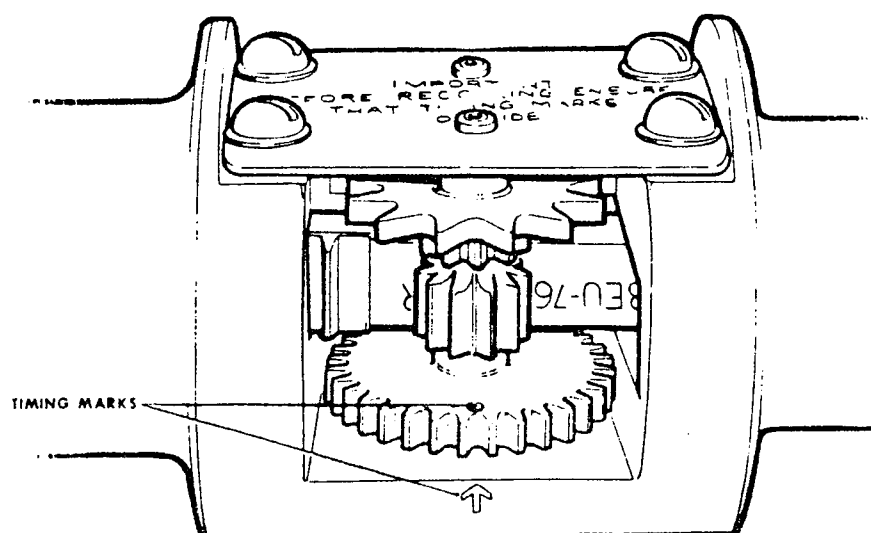

Fig 2 Resetting the mechanism
4.1 Gently rotate the primary wheel until the detent plunger engages the detent of the primary wheel. When in this position the red dot on the primary wheel will be approximately in line with the arrow engraved on the outside of the body (fig 2).
7.10 Ensure the timing marks are approximately in line; fig 2, exercise the gears over their complete range several times.